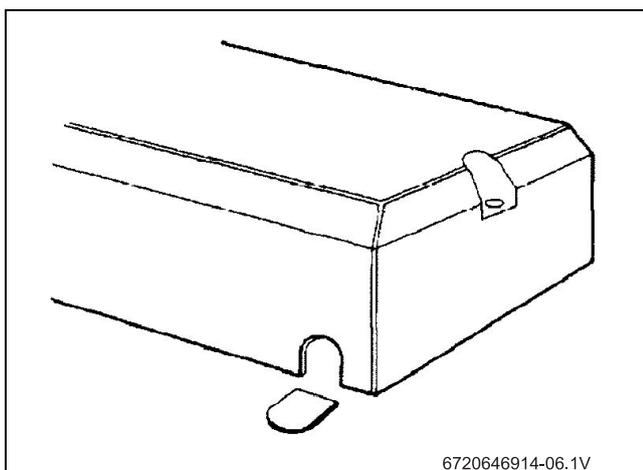

Fig. 5 Unit cover
- ▶ If it is going to be through the cover bottom, cut out the plastic lug to expose the rubber sleeve (Fig. 5):